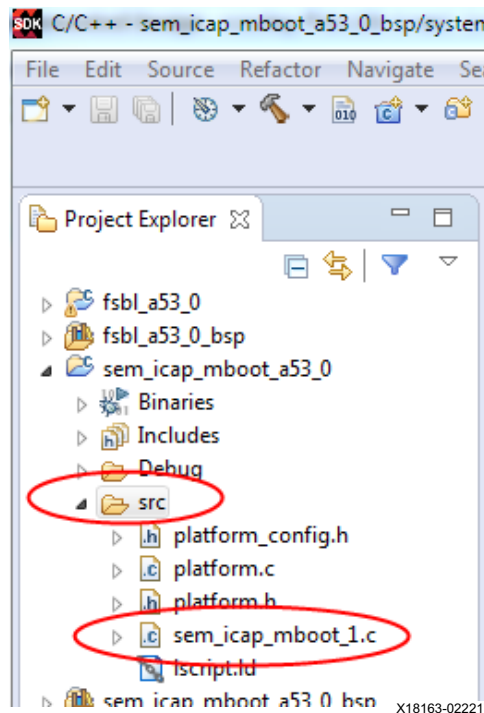

Figure 12: Design 1 - Project Explorer
- e. Right-click the **src** directory. Select **Refresh** so the copied file appears. See Figure 12.